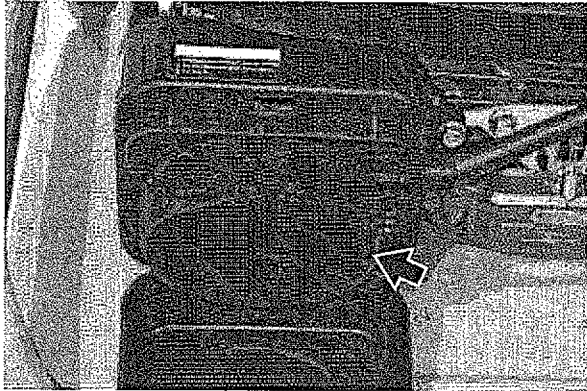

Figure 30 – Removing Air Filter Element
5. Remove the foam air filter element (see Figure 30).